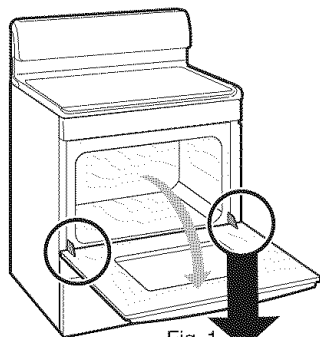

Fig. 1
2. Remove broiler pan & insert (See Fig. 1).
6. Place broiler pan on rack; make sure the broiler pan with the insert is positioned as shown (See Fig. 1). Be sure front of pan is positioned correctly in rack.
1. Open oven door completely (horizontal with floor - See Fig. 1).